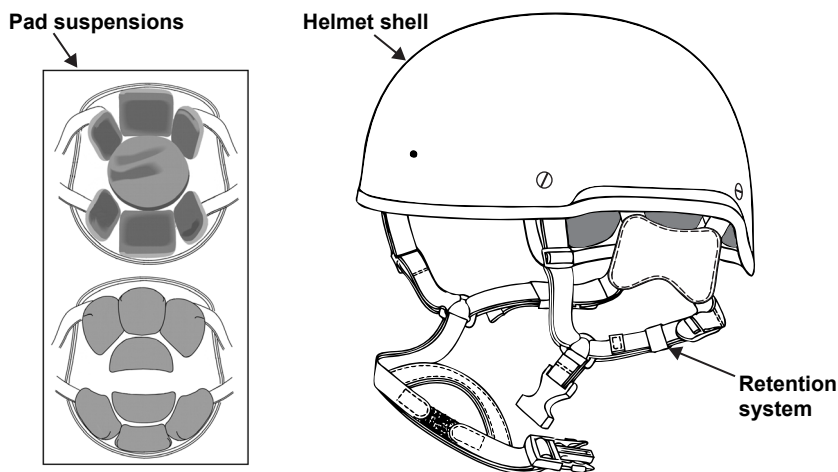

Figure 1. TBH II HST Helmet
- The helmet (**Figure 1**) is trimmed higher on the sides than the standard TBH II or ACH helmets to accommodate various headsets with earcups that protrude outward toward the bottom, such as GenCOM III and Comtac headsets.